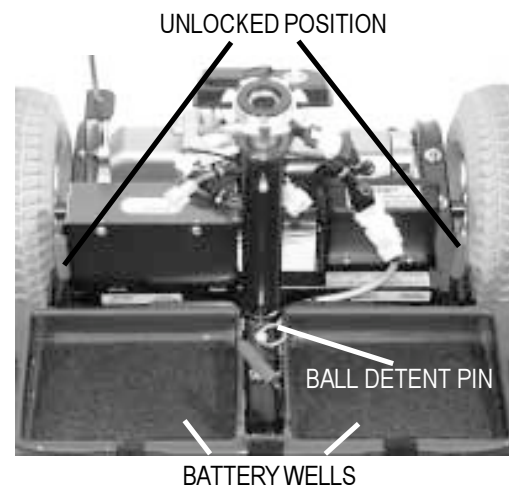

FIGURE 16. FRAME CAM LOCK LEVERS
9. Remove the ball detent pin from the frame. See figure 16.
10. Move the cam locks to the unlocked, vertical, position. See figure 16.